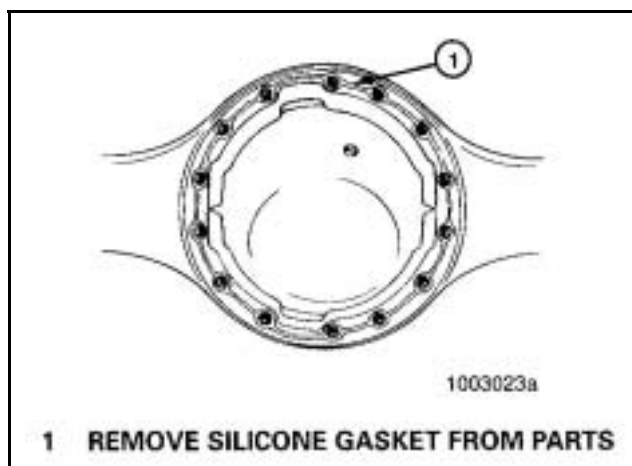

Figure 42
4. Clean parts and apply new silicone gasket material where required when axle or carrier is assembled. **Figure 42.**